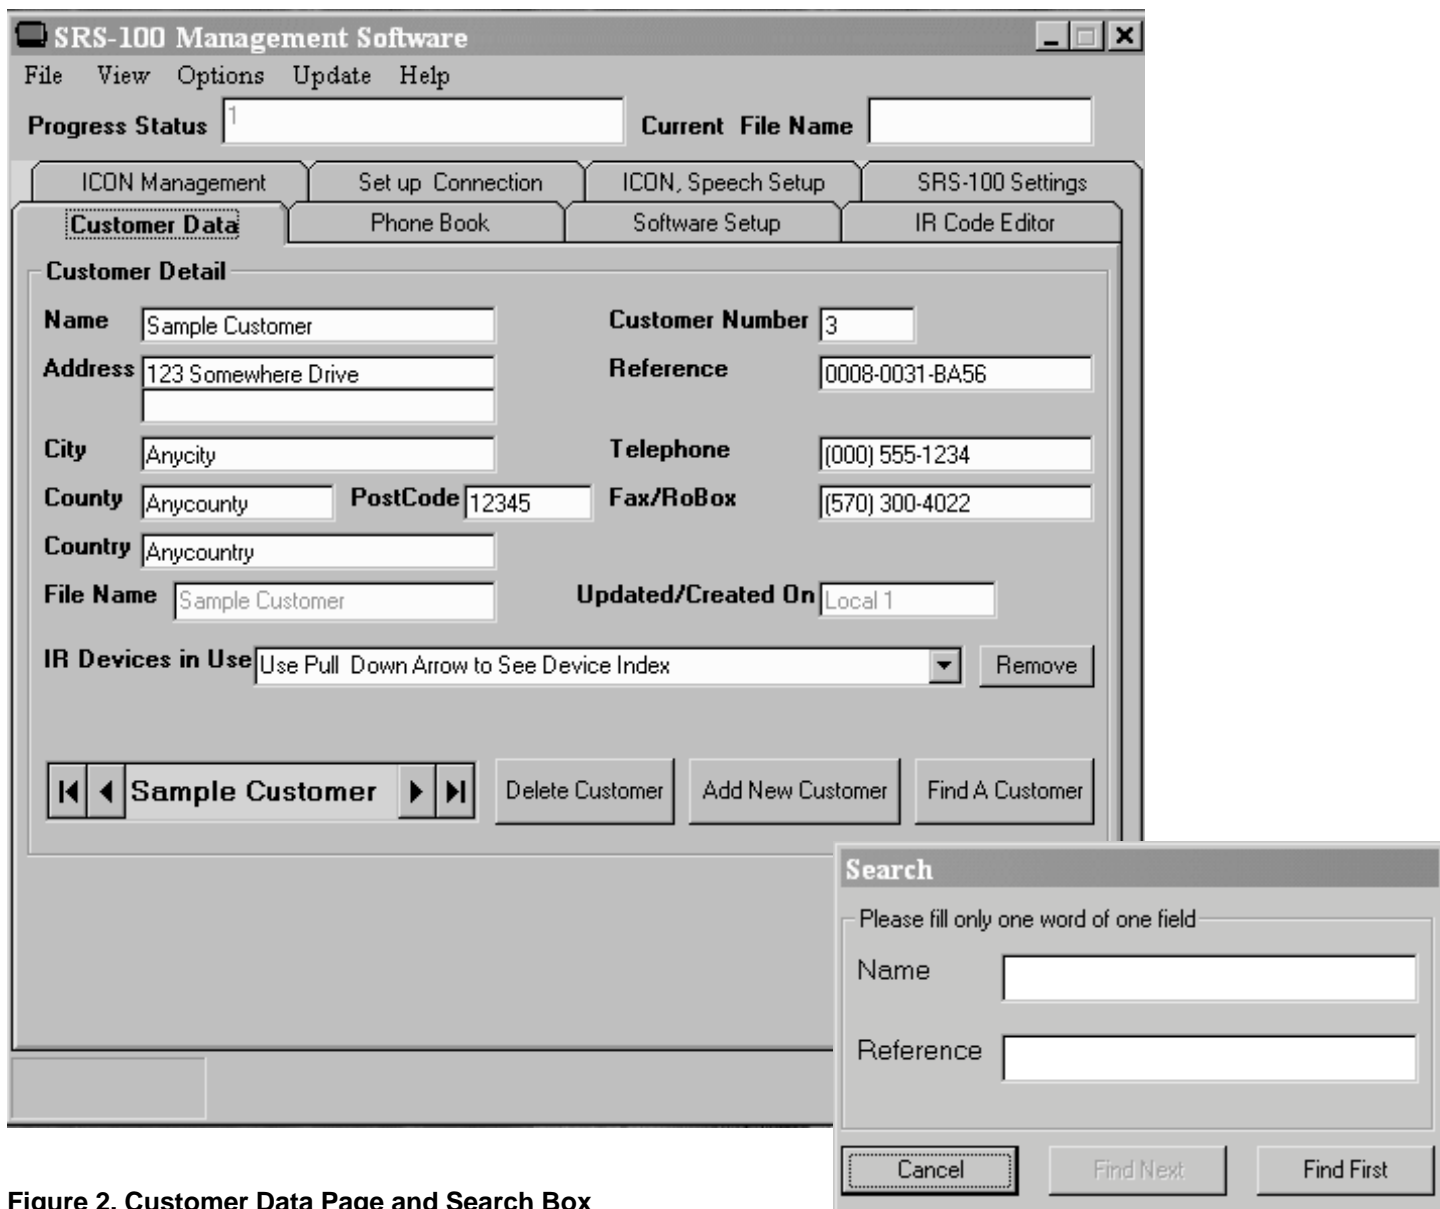

Figure 2. Customer Data Page and Search Box
1. From the Customer Data page, click on the Add New Customer button. See figure 2.
- Click on the Find A Customer button. The Search window is displayed. See figure 2. Enter the first few letters of a customer's name or reference number in the appropriate text box. Click on the Find First button. Click on the Cancel button to work on the displayed customer or click on the Find Next button to view more related search results.